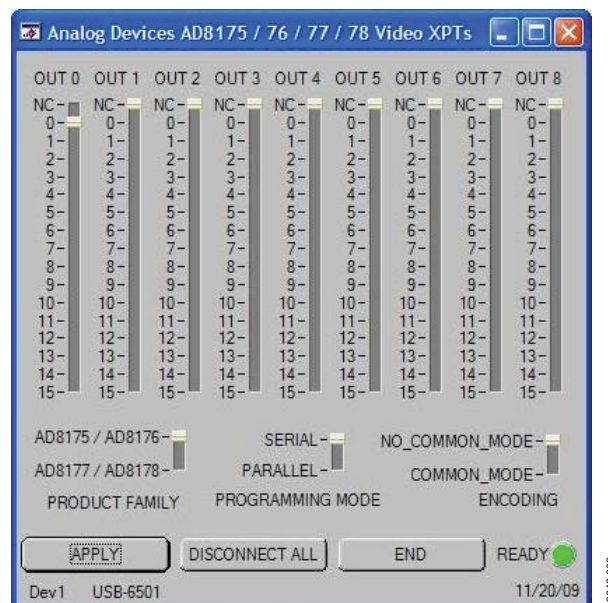

Figure 2. Sample of Input and Output Setting on the Evaluation Software
3. Select the **IN0 to OUT0 LED** in the evaluation board software, and then click **APPLY**. OUT0 then produces the signal from IN0 (see Figure 2).